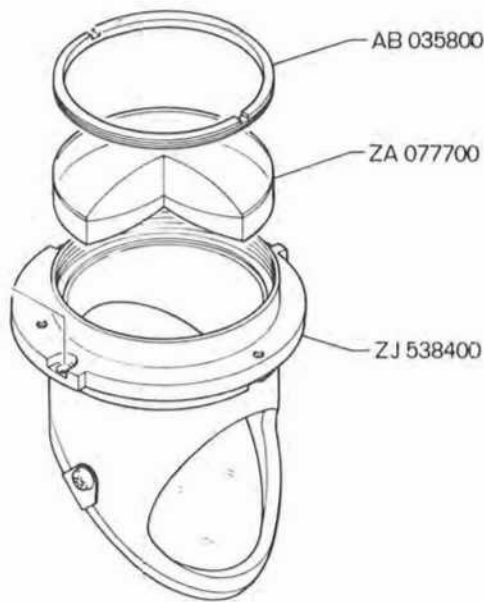

Fig. 5-4
- b) Remove Lens ZA077700. (See Fig. 5-4.)